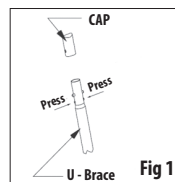

Fig 1
- (iii) Take four U-braces and insert them into the channel in the cross belts (see figure 3). Fit both top ends of the U-braces with caps (see figure 1) - prior to fitting press the lock on the U-brace and turn the cap slightly into position, in which the connection is locked.